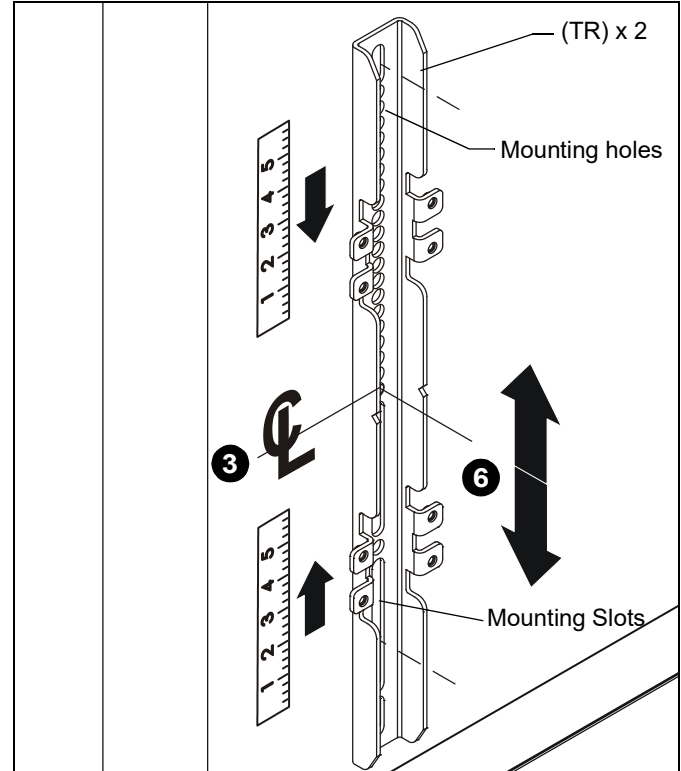
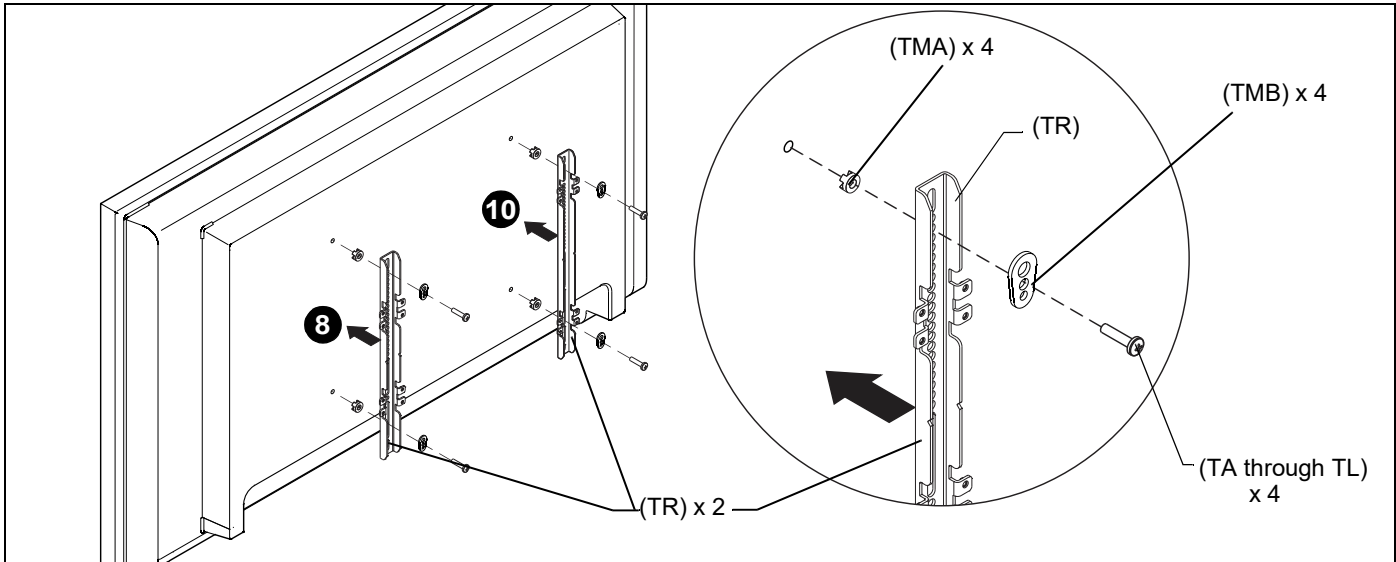

Figure 14
Figure 16
- Determine and mark the vertical center position between the Left side Upper and Lower mounting holes in display. (See Figure 14)
- Determine and mark the vertical center position between the Right side Upper and Lower mounting holes in display. (See Figure 14)
- Orient vertical mounting bracket (TR) so that mounting holes are on top and mounting slots are on bottom. (See Figure 14)
- Align mounting holes in vertical mounting bracket (TR) with upper and lower mounting holes in display.
- Adjust vertical mounting bracket (TR) position until mark made in Step 1 aligns with center mark in vertical mounting bracket (TR).
- Select correct screws, nesting spacers (if necessary) and universal washers (if required) from the hardware bag (TA-TM) and attach brackets to back of screen. (See Figure 16)
9. If the display has a recessed mounting surface, protrusions or a power box, a spacer and longer mounting hardware must be placed between the display and vertical mounting bracket (TR). (See Figure 16)